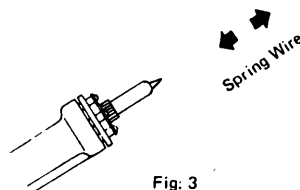

Fig: 3
2. Adjust the heating element to a higher temperature allowing the clogged solder to melt. Clean the tip by sliding the spring wire up and down until the passage is clear (see fig. 3).